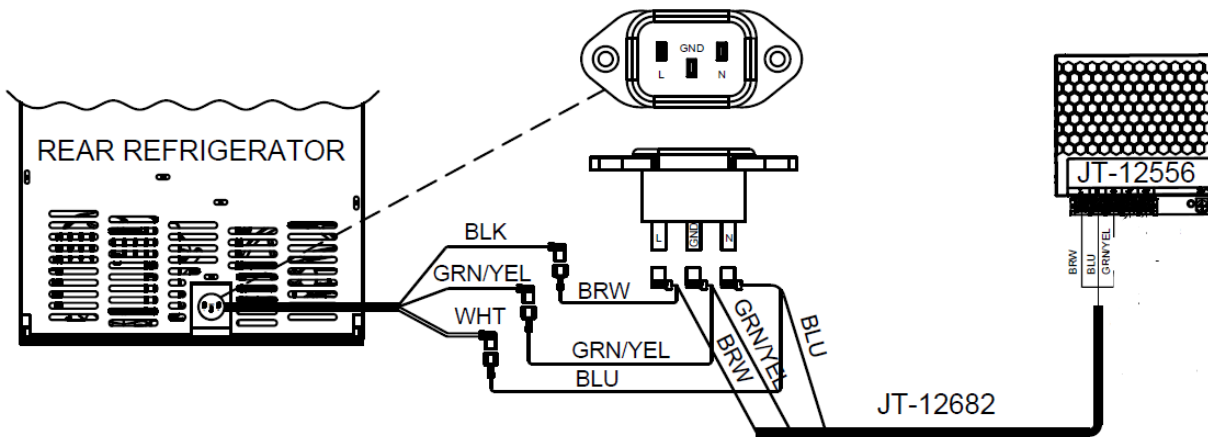

Figure 88: Power Supply Harness Diagram.
- iii. Check the power supply harness. Check the fridge harness to verify it is connected as seen in **Figure 88**. Remove two screws from the fridge power plug to check the connections to the plug. Refer to **Appendix C: JoeTap NITCOM Wiring Diagram** for full wiring diagram.